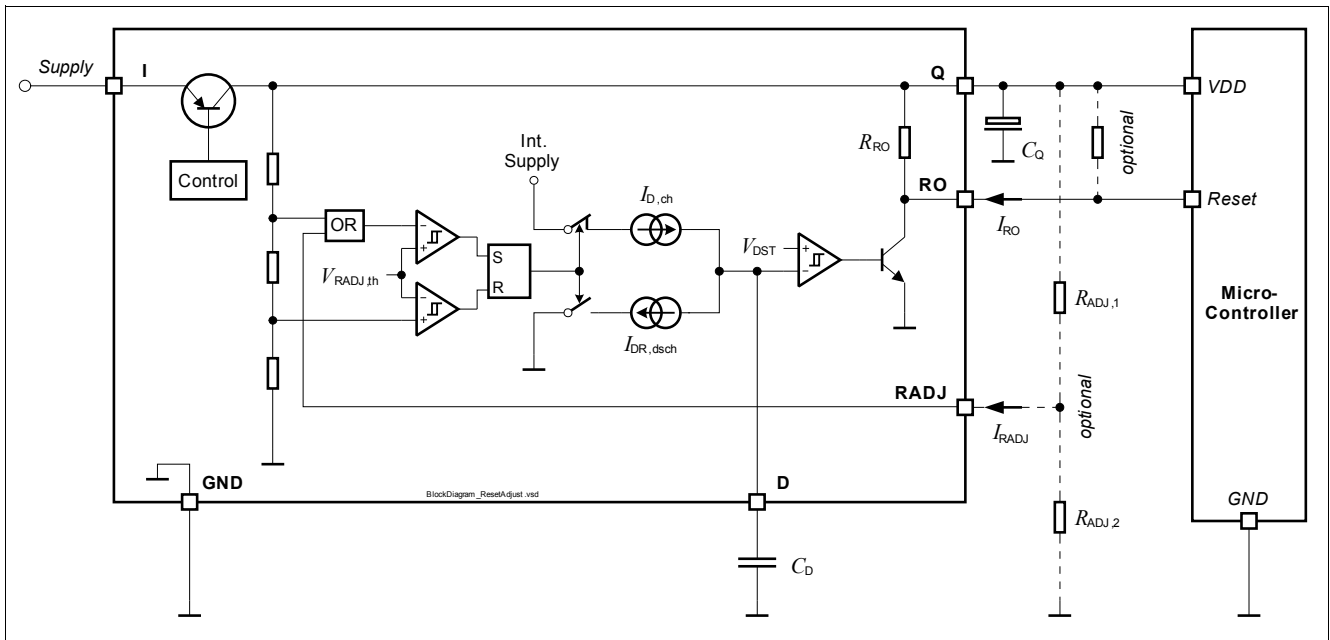

Figure 6 Block Diagram Reset Circuit
- $R_{ADJ,1}$, $R_{ADJ,2}$: Resistors of the external voltage divider, see **Figure 6**.
all voltages with respect to ground, direction of currents as shown in **Figure 6** (unless otherwise specified).